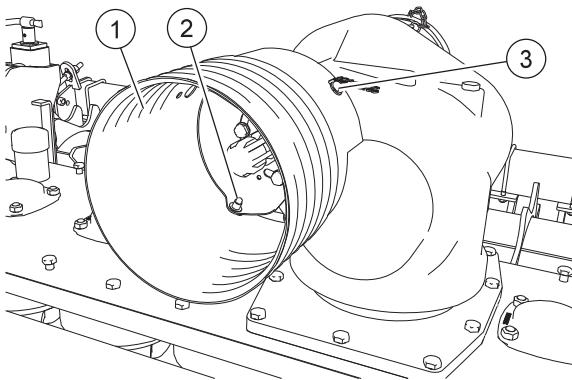

FIG. 14
- Put the guard into place (1, "Fig. 14"). Loosen the screws (2). Loosen the bolt (3).